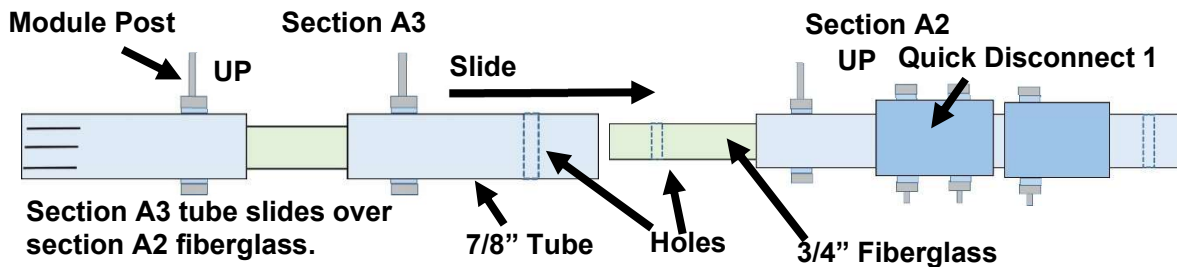

FIGURE 34
□ **STEP 6.32** Slide 7/8" tube of section A3 over 3/4" fiberglass rod of section A2, as shown in **FIGs 34, 35 and 36**. Section A3 will slide smoothly, if properly aligned. A slight angular adjustment may be necessary for a smooth slide. When sliding A3, slowly rotate to align the 2 holes. The STOP line on the fiberglass rod is where the holes will align, **if properly rotated. After holes are aligned, check that both module posts for A2 and A3 face UP. (FIGs 34 and 37).**